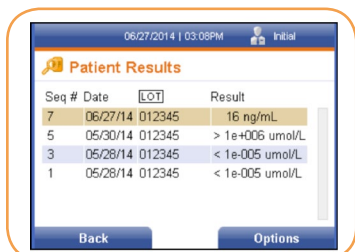

FIGURE 71
4. Press the right soft key to select to view the patient results by Operator ID (Figure 71).